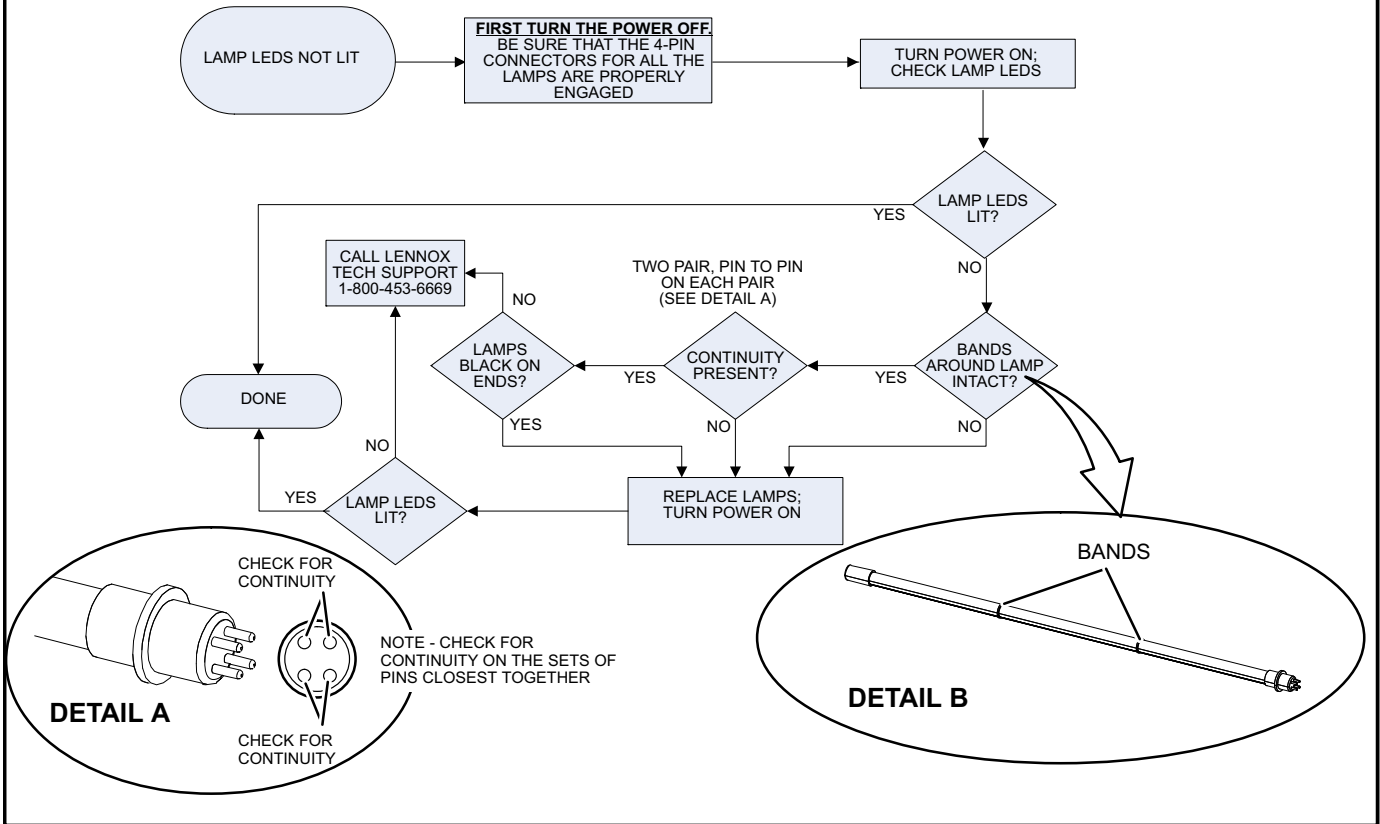

FIGURE 35
- 2- Ohm-check across the lamp pins to check for continuity of lamp filaments (see figure 35).